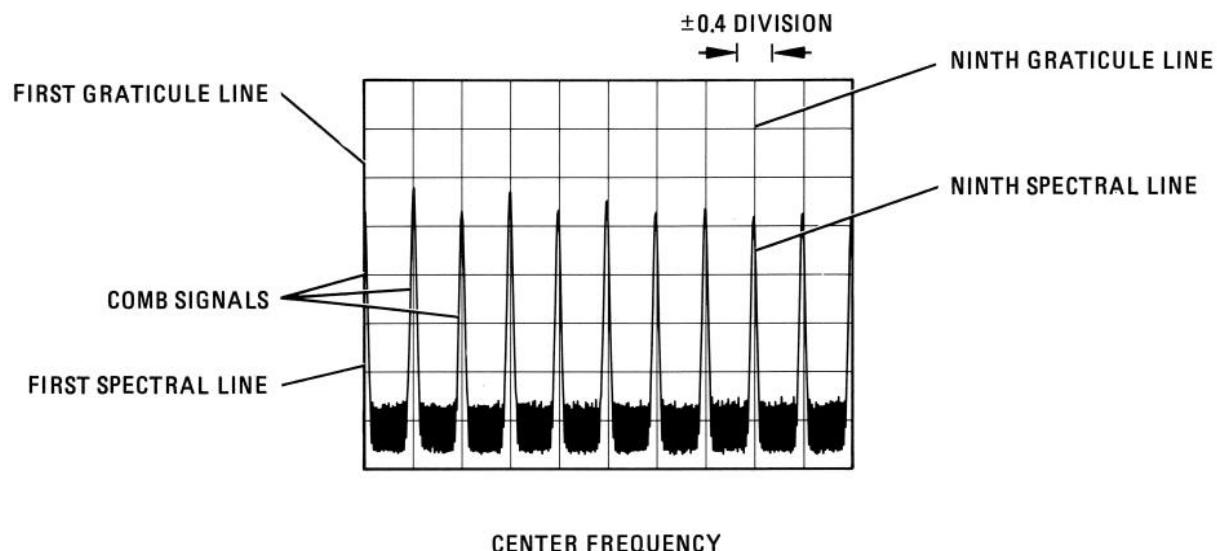

FIGURE 4-2. FREQUENCY SPAN ACCURACY MEASUREMENT FOR NINTH SPECTRAL LINE
- Adjust spectrum analyzer TUNING control to position one spectral line (from comb generator) at first graticule line (left-hand edge of display). Measure error between ninth spectral line and ninth graticule line as shown in Figure 4-2. Error should be no greater than  $\pm 0.4$  division.